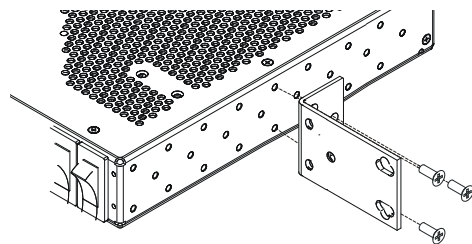

Figure 2 - Bracket Orientation
1. If necessary, remove the three screws and reposition/realign the brackets on the sides of the breaker panel, as shown in Figure 2.